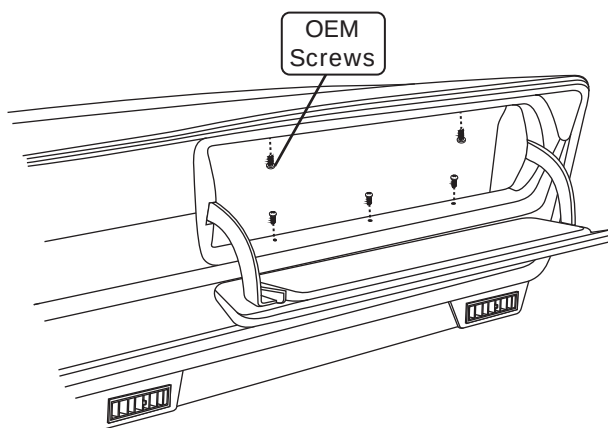

Figure 2a
6. Secure glove box to glove box compartment using OEM screws (See Figure 2a, below).